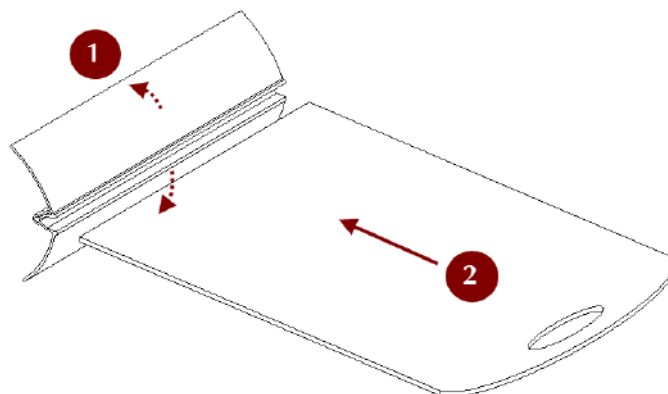

Figure 173: Assembling the rig.
3. Insert the board into the slot, as Figure 173 shows.